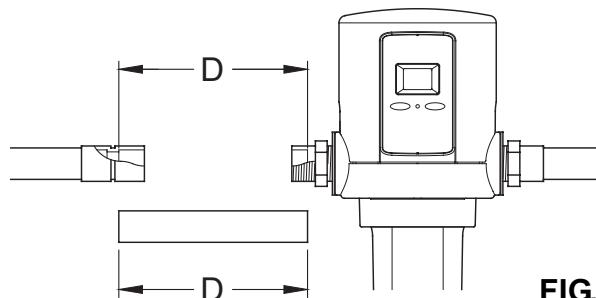

FIG. 16
7. Turn a sweat adaptor fitting into the other side of the filter head and hand tighten only. Using a tape measure or ruler, measure the distance "D" as shown in Figure 16. Mark this same dimension on a length of copper pipe. Cut the length of pipe. Cut the length of pipe.